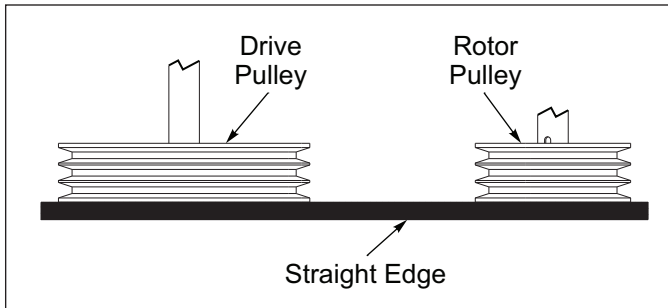
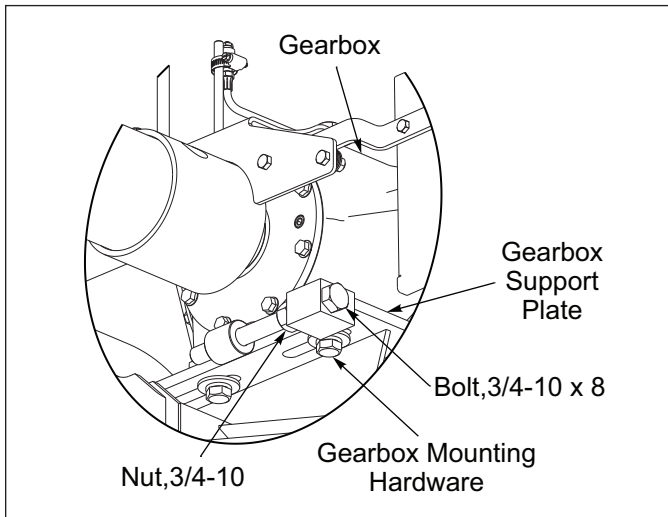

Figure 4-7: Belt Pulley Alignment
Figure 4-8: Belt Pulley Adjustment
3. Check Belt Pulley alignment by laying a straight edge against both Pulleys. **See Figure 4-7.** The straight edge should touch on both edges of each Pulley. If they don't, slide the Pulley in or out on the Shaft, as well as adjusting the Gearbox Support Plate by loosening the Gearbox Mounting Hardware and the 3/4-10 Nuts. Adjust by turning the take-up 3/4-10 x 8 Bolts until the proper Pulley alignment is achieved. **See Figure 4-8.**